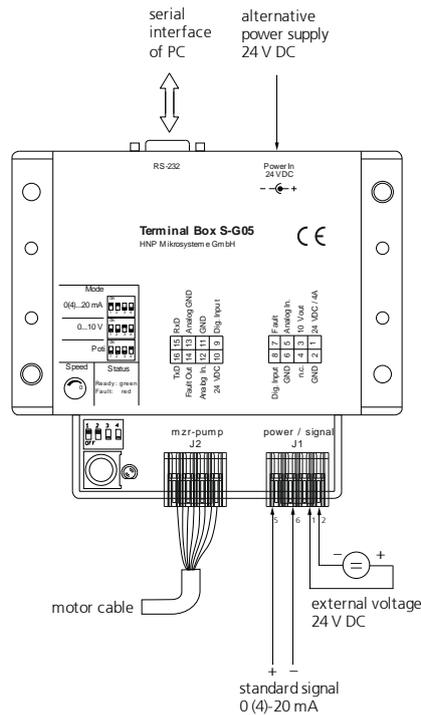

figure 11 Operation via an external 0 (4)-20 mA voltage
4. Connect the external current source to the screw clamps »AnalogIn« and »GND« to the S-G05. (see figure 11).